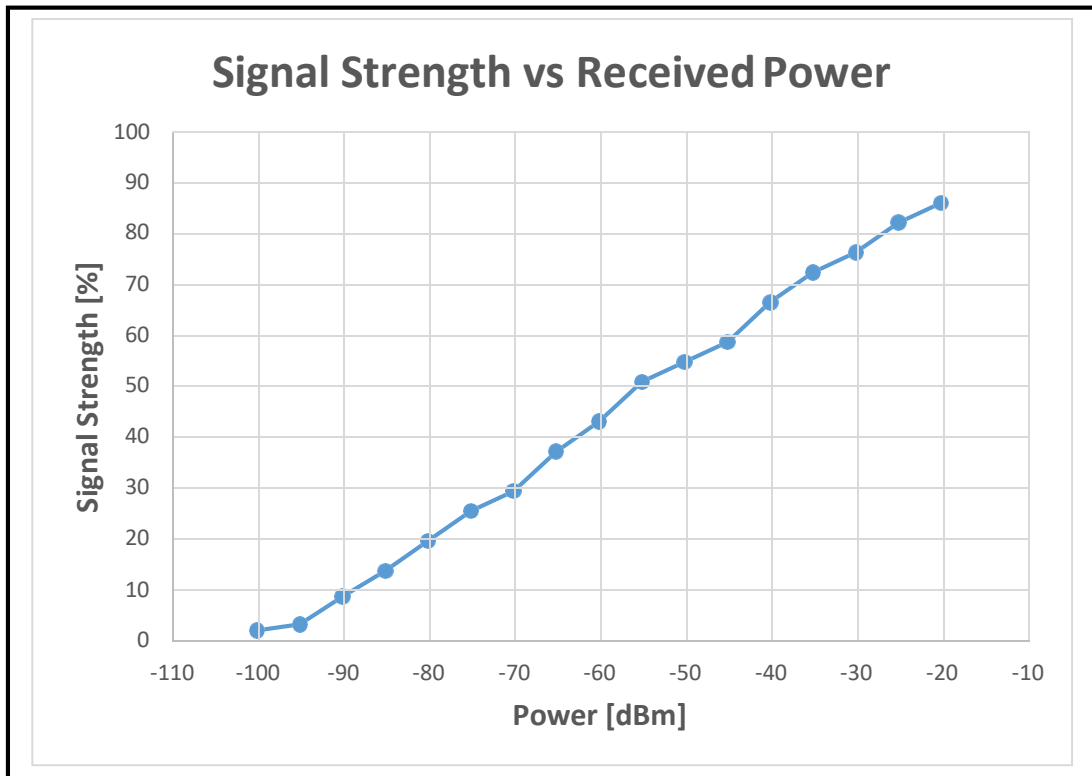

Figure A.2 – Received Power Chart
**Figure A.2** shows the rough mapping from Received Power to Signal Strength. Receive power is measured in dBm which is a logarithmic term. For every 10dBm increase in receive power the actual power is increased by 10 times.